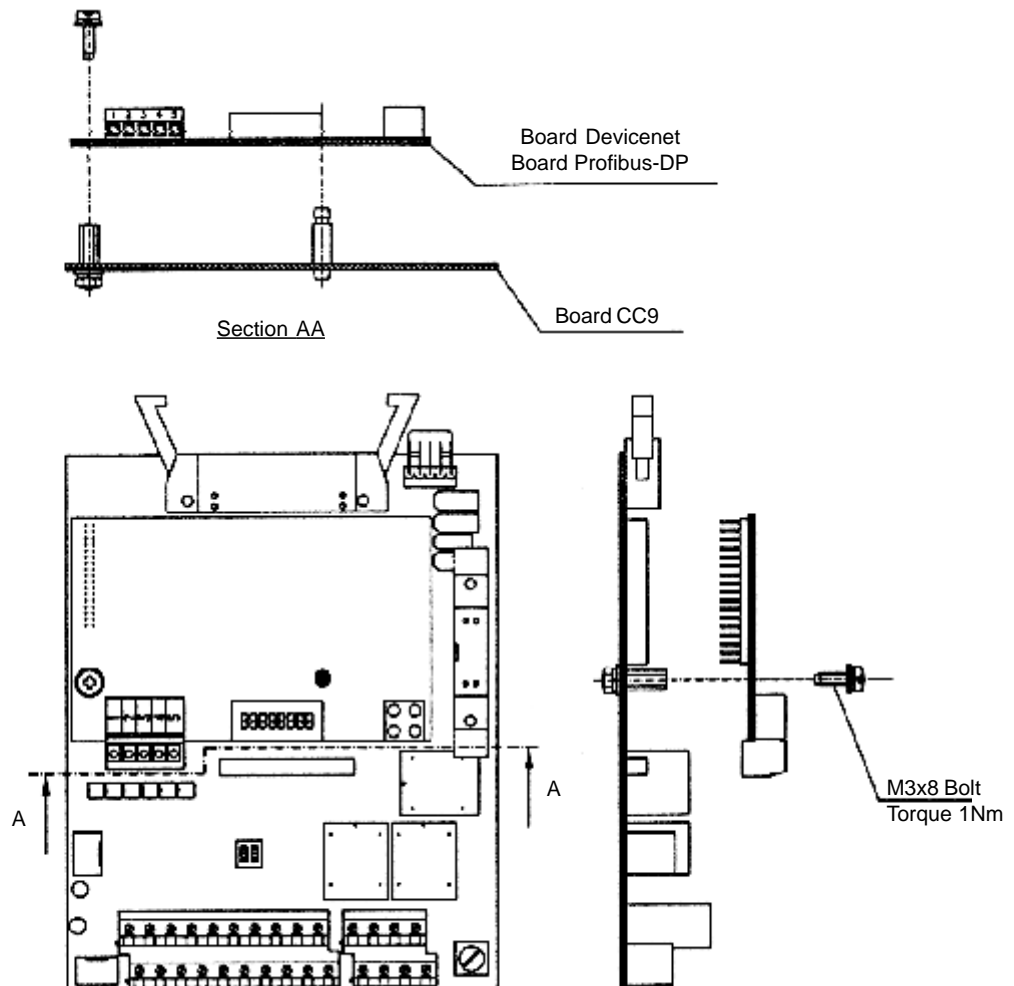

Figure 8.35 - Installation of the Electronic Board of the Fieldbus
2. Connect carefully the pin connector of the Fieldbus board to the female connector XC140 of the CC9 control board. Check the exact coincidence of all pins of the XC140 connector (Figure 8.35).